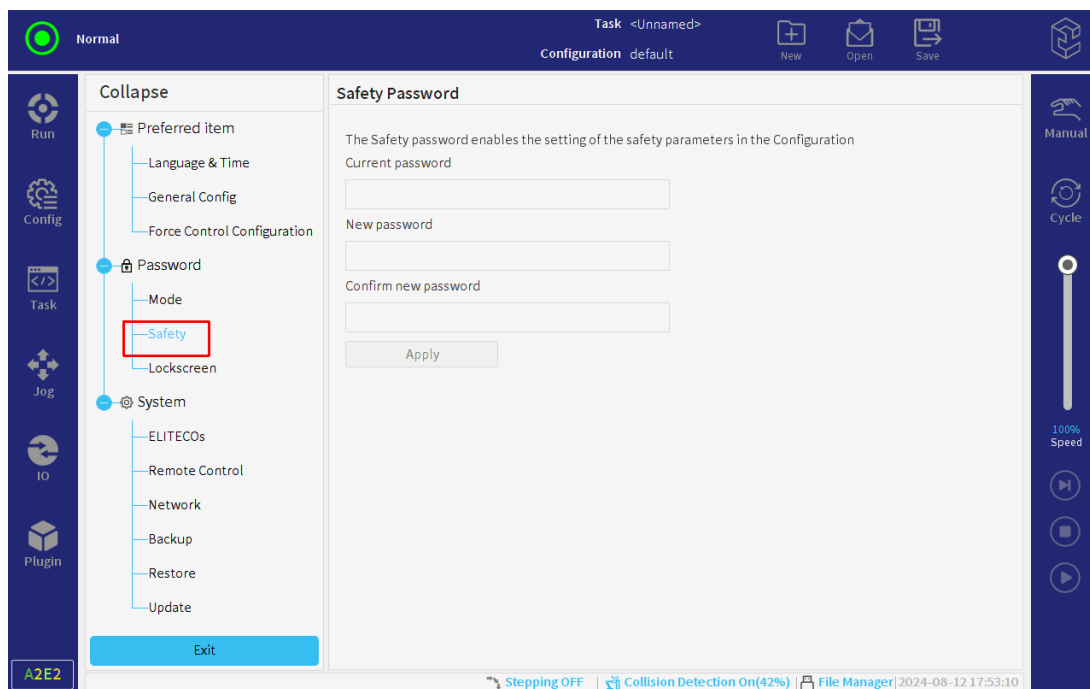

Figure 3-17 : Safety password
2. Select "Settings > Password > Safety" to enter the "Safety" page, as shown in **Figure 3-17**.